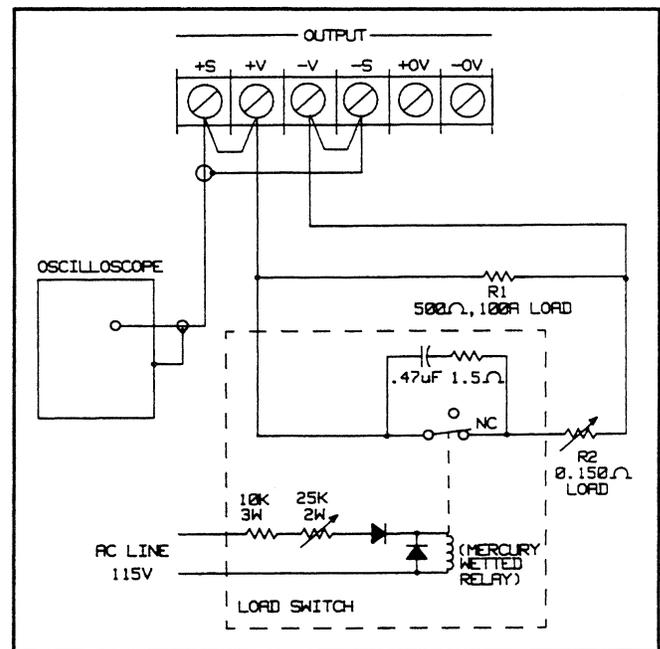

Figure 3-4. Transient Recovery Time Test Setup
- Turn off the supply and connect the output to be tested as shown in Figure 3-4.